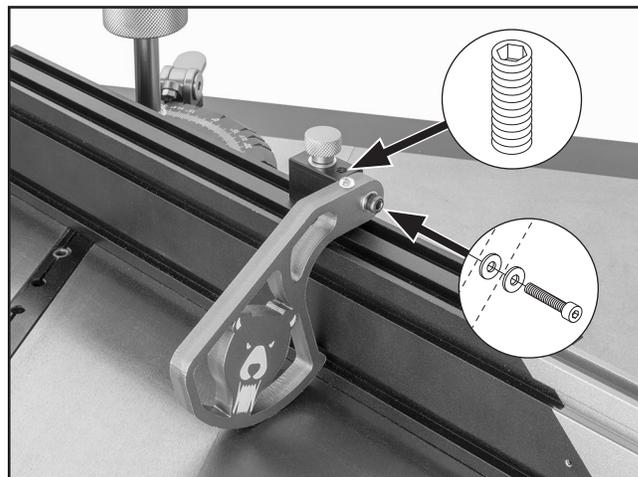

Figure 16. Location of flip stop cap screw and set screw.
3. Tighten flip stop lock knob, cap screw, and set screw to secure (see **Figure 16**).
1. Loosen flip stop set screw, then remove (1) cap screw and (2) flat washers (see **Figure 16** on **Page 6**).